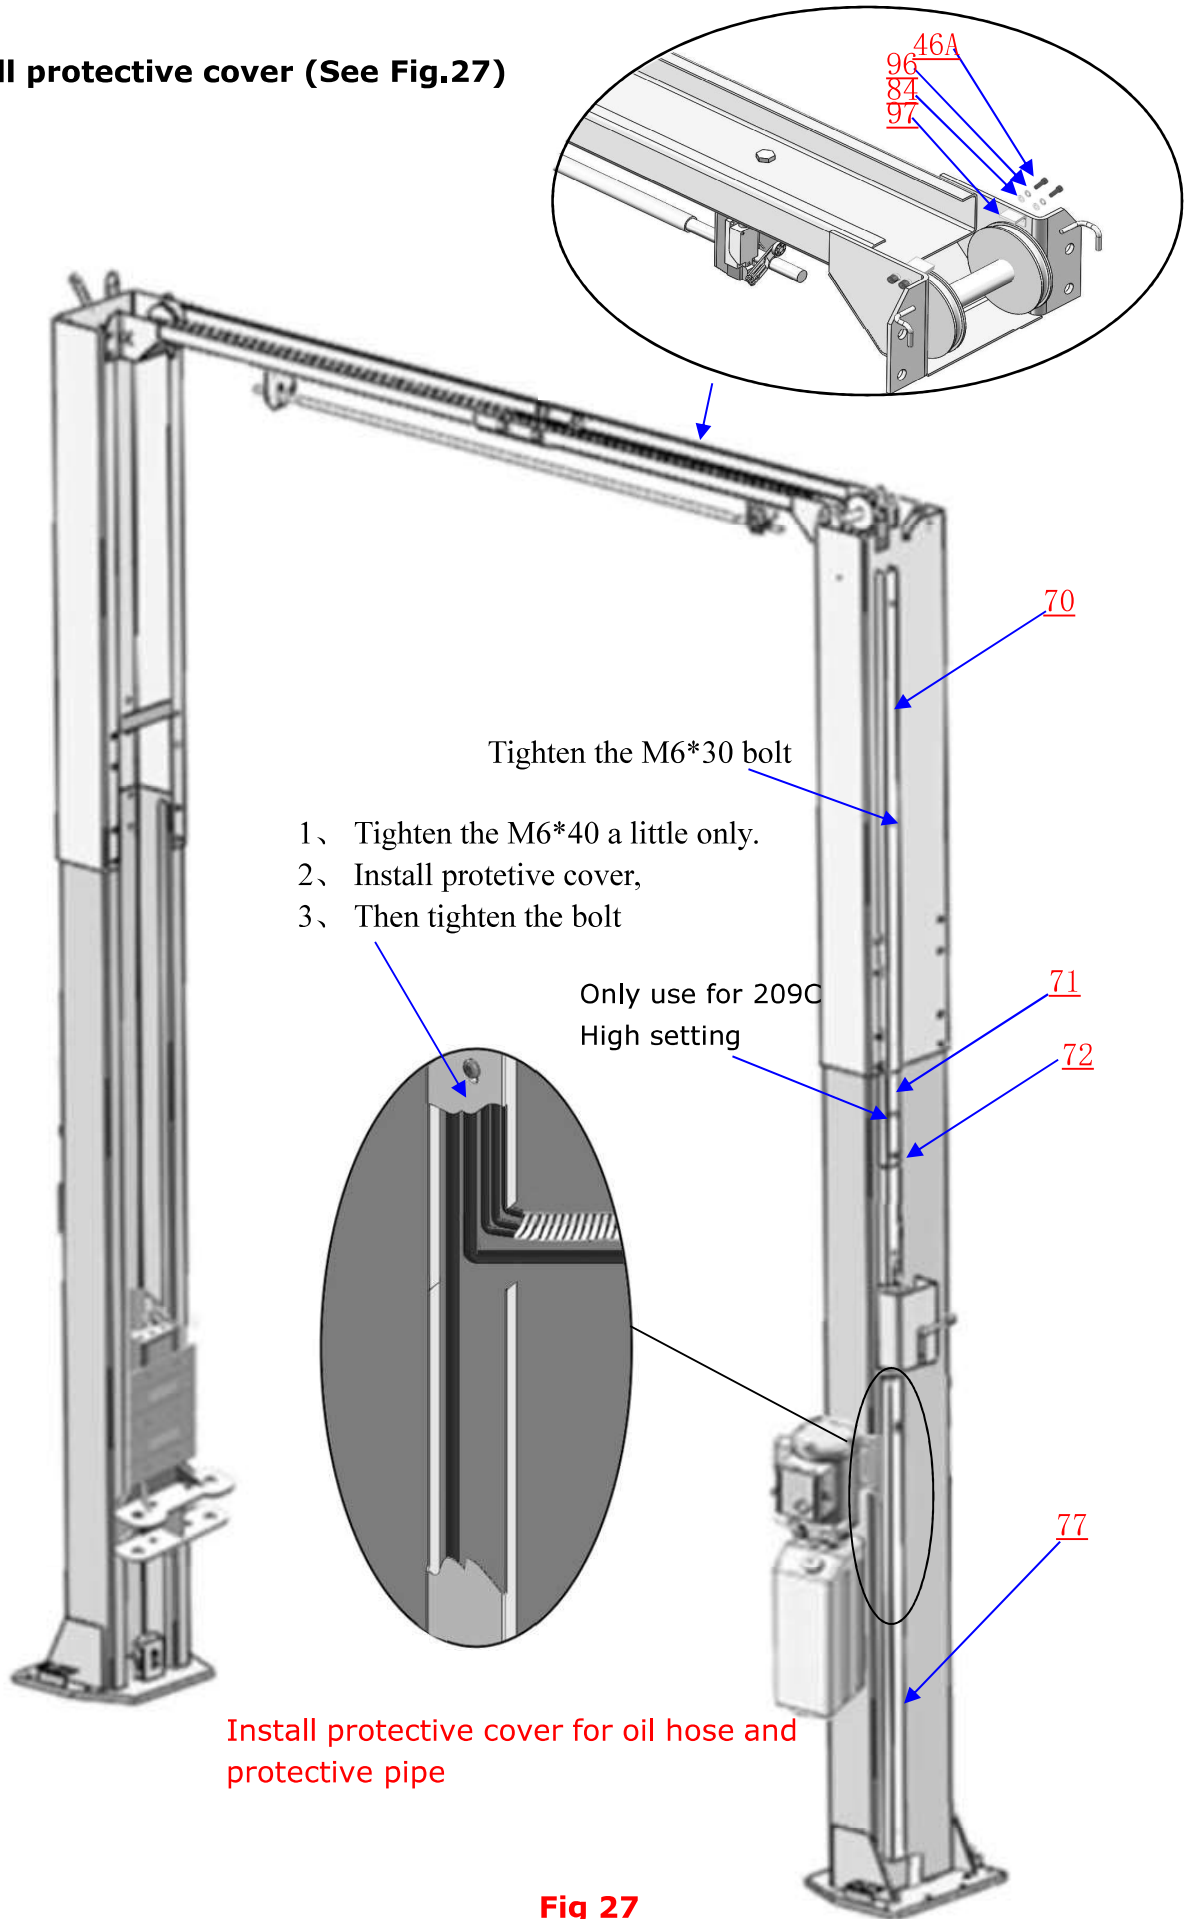

Fig 27
M. Install protective cover (See Fig.27)